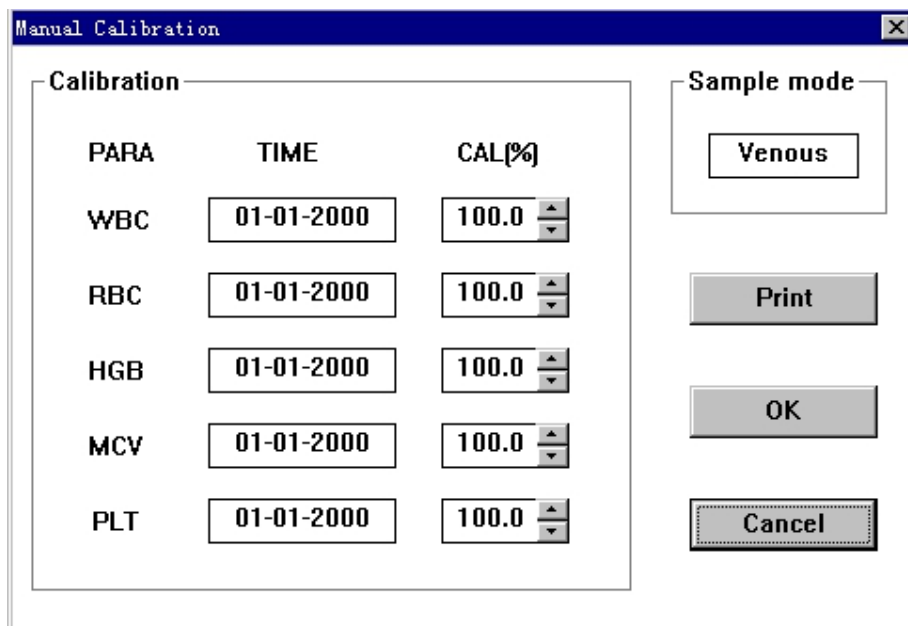

Figure 5-1
- In the blood cell analyzer window, press the right key of the mouse, pops the menu, select "Manual Calibration" in the menu, enter the calibration windows, as shown in figure 5-1.